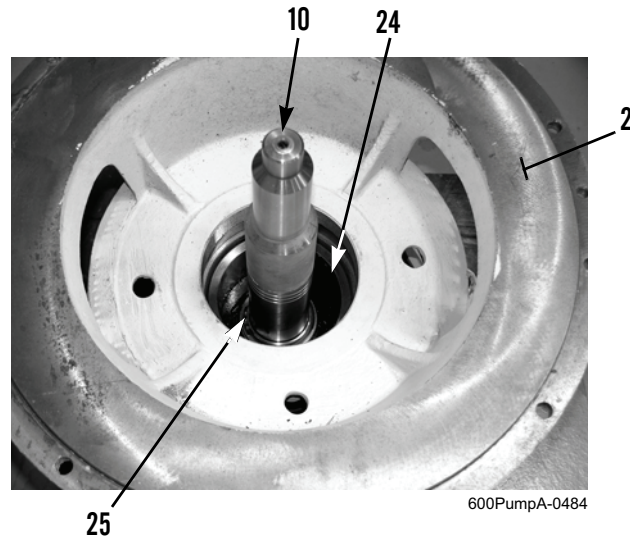

Figure 10. Impeller Shaft, Bearing, and Spacer.
17. Place a block of wood against impeller end of impeller shaft (Figure 10, Item 10) and tap impeller shaft, spacer (Figure 10, Item 24), and bearing (Figure 10, Item 25) from bearing bore in intermediate housing (Figure 10, Item 2).